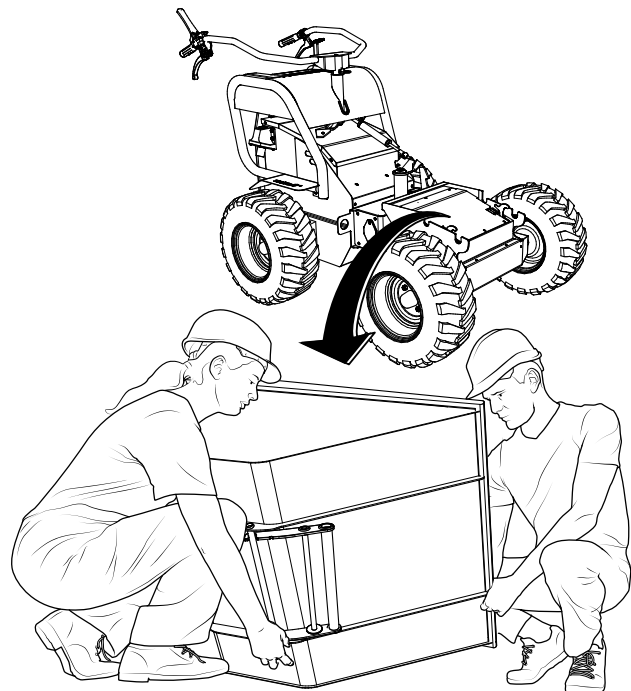

Figure 70. Tub Removal
2. With **two people**, lift and remove the tub (Figure 70). Place the tub onto its side away from the unit.